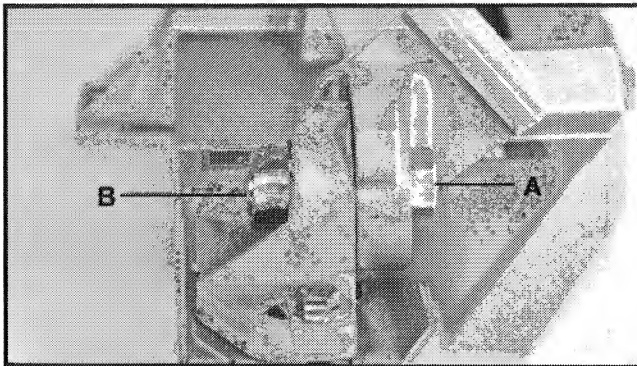

Fig. 8
1. Check arm pivot screw (A) Fig. 8, and tighten nut (B) if necessary to remove all sideward movement of the arm, yet allowing arm to pivot up and down freely.